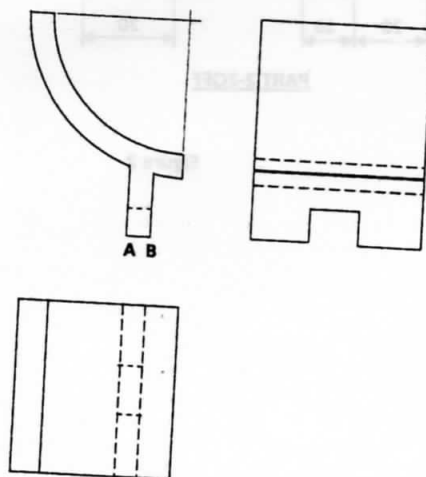

Figure 4
- 9 **Figure 4** shows a block drawn in first angle projection. Sketch the block in oblique taking AB as the lowest edge. (4 marks)